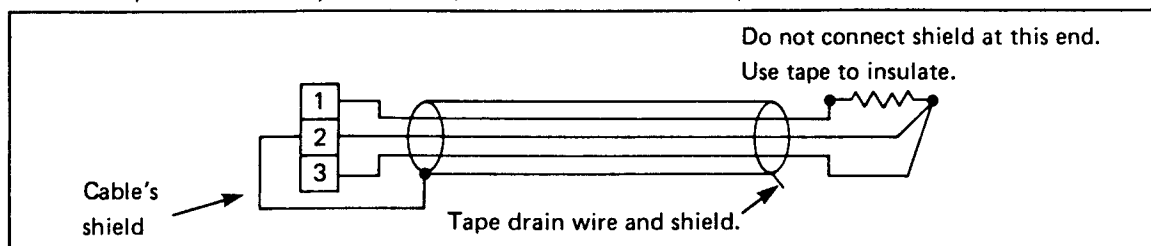

Figure 5.9 – RTD Wiring
5.5.1 RTD Wiring – If the optional RTD Module is used, it must be wired as shown in Figure 5.9. Also, note the following requirements:
- At the RTD, 2 return lines must be wired together, as shown in Figure 5.9.